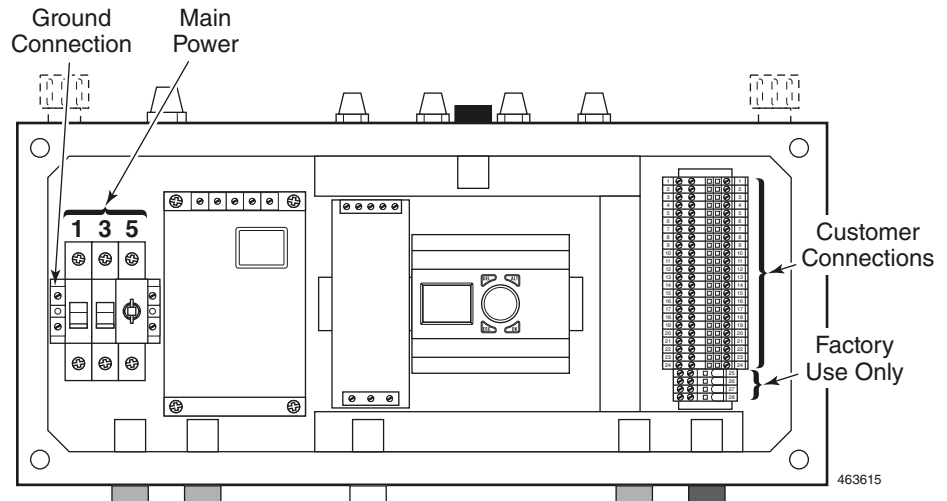

Figure 21
1. Install conduit and wire from the breaker panel to the left side of the control panel. See *Figure 21*.
3. On 3-phase systems, connect each phase to breaker poles 1, 3, and 5. On single phase systems, connect each Phase to breaker poles #1 and #3 (breaker pole #5 is not used). See *Figure 21*.
Door control signal wiring is done at the terminal blocks located inside the Control Panel, on the right side. See *Figure 21*. There are many signals used to control the door Operator. The most common are pull cord switches or stations, three button stations (i.e. open, close, stop) and radio control. All three may be used separately, in combination, or all together. The control circuit is 24 VDC. Consult local electrical codes before proceeding with permanent installation.
7. Connect the wires of one of the pull cord switches to terminal blocks #5 and #9. See Figure 21.
Connect Input/Output wires in a manner similar to the pull cord wires (above). Refer to the *Terminal Blocks* section of the *R-Plus Doors ICC-5 Operator Quick Reference* manual and to the *Input/Output Guidelines* sheets to know where and how to connect these devices. See Figure 21.